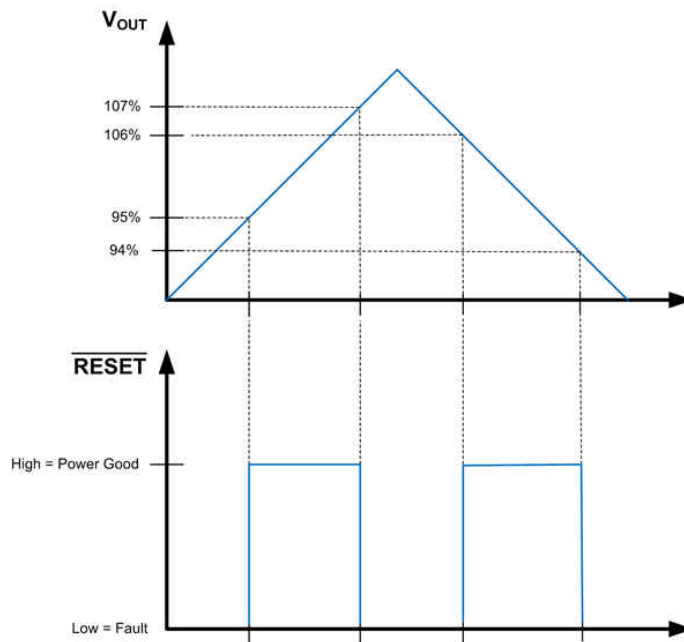
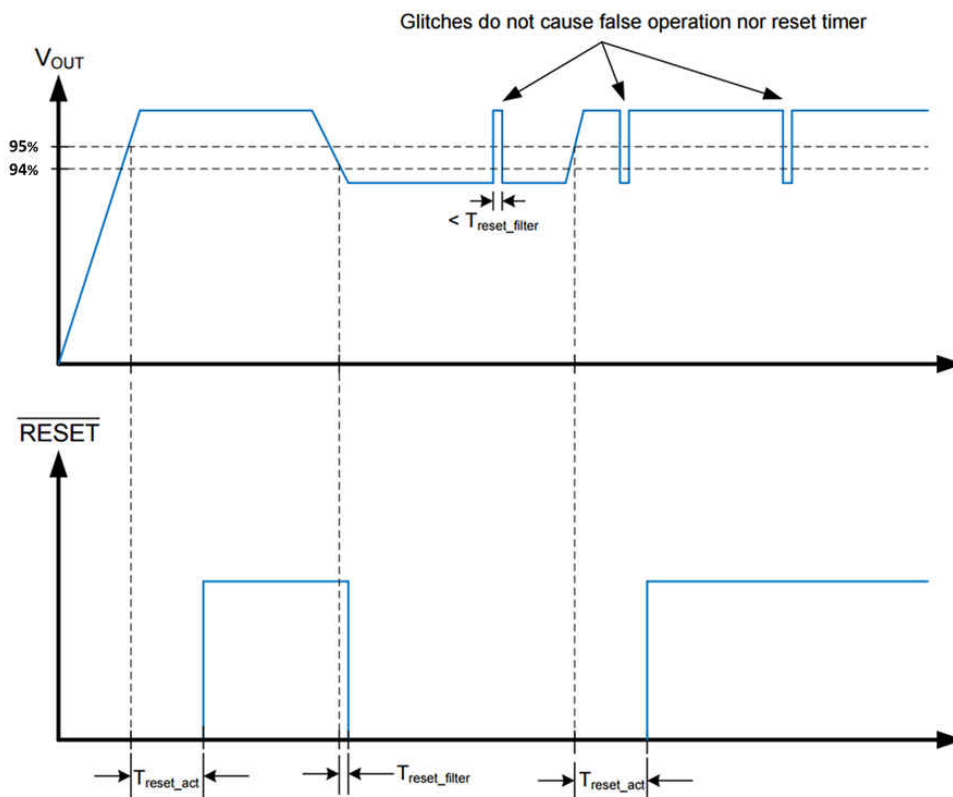

Figure 8-2. Static  $\overline{\text{RESET}}$  Operation
Figure 8-3. RESET Timing Behavior
The  $\overline{\text{RESET}}$  function, built into the LM53625/35-Q1, has special features not found in the ordinary Power-Good function. A glitch filter prevents false flag operation for short excursions in the output voltage, such as during line and load transients. Furthermore, there is a delay between the point at which the output voltage is within specified limits and the flag asserts Power Good. Because the  $\overline{\text{RESET}}$  comparator and the regulation loop share the same reference, the thresholds track with the output voltage. This allows the LM53625/35-Q1 to be specified with a 96.5% maximum threshold, while at the same time specifying a 94 % worst case threshold with respect to the actual output voltage for that device. This allows tighter tolerance than is possible with an external supervisor device. The net result is a more accurate Power-Good function while expanding the system allowance for transients, and so forth.  $\overline{\text{RESET}}$  operation can best be understood by reference to Figure 8-2 and Figure 8-3. The values for the various filter and delay times can be found in Section 7.7. Output voltage excursions lasting less than  $T_{\text{RESET-filter}}$  do not trip  $\overline{\text{RESET}}$ . Once the output voltage is within the prescribed limits, a delay of  $T_{\text{RESET-act}}$  is imposed before  $\overline{\text{RESET}}$  goes high.
- A delay has been added for release of reset. See Figure 8-2 and Figure 8-3 for more detail.